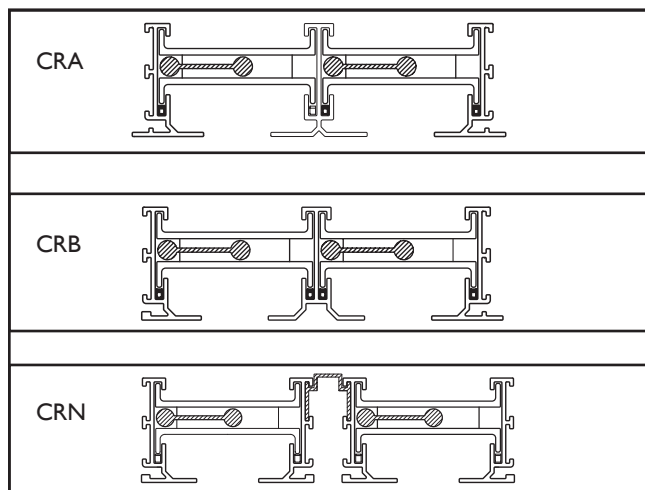

Figure 12. Center Extrusion Configurations
- NOTE: The finished opening must be smaller than the overall FlowBar face dimensions. Refer to Table 2 for the ceiling opening width required. The Two-Slot Diffusers are available with the three different types of center extrusions as shown in Figure 12. The type of center extrusion determines the ceiling opening.